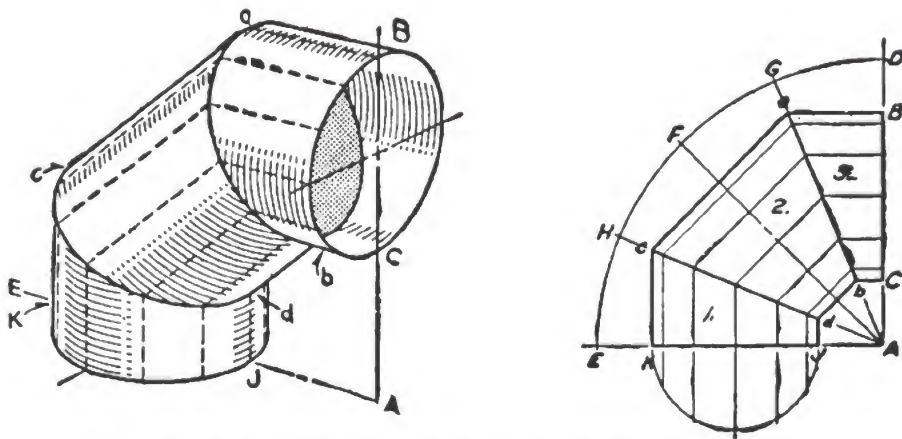

Figure 11-5.—Development of a three-piece elbow.
But what about a three-piece, 90° elbow, like that shown in figure 11-5? Notice that the three parts of this elbow are portions of cylinders. You'll use the same system of parallel development, but it requires some special preparation.
To start this layout, draw the view shown at the right in figure 11-5. Erect a right angle from point *A*. Measure off the height of the elbow along *AD*. Measure off the diameter of the elbow from *B* to *C*. Swing the arc *DE* with any convenient radius, with *A* as the center.
2. Develop the three-piece 90° elbow shown in fig. 11-5, given these dimensions: